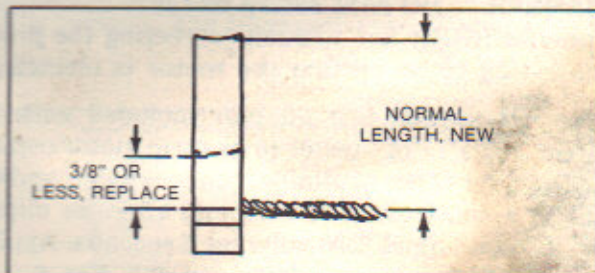

Fig. 3 — Checking Brushes
- c. If one or more brushes are worn more than shown in Fig. 3, replace.